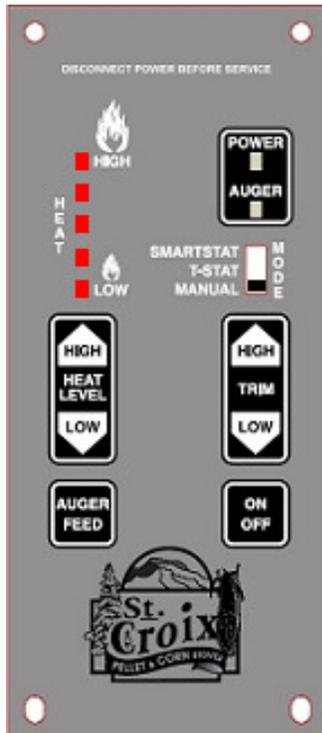

Figure 3
3 - **Program 3.** The Cycle Time is 11.5 seconds. **THIS PROGRAM IS THE DEFAULT PROGRAM FOR USE WITH THE AFTON BAY.** This program is for use with **Pellets, Cherry Pits and a 50/50 Percent Mixture of Pellets and Corn (See fig. 3 on page 8).** **(DO NOT USE THIS PROGRAM WITH OUR GRAIN BURNING MODELS).**
4 - **Program 4.** The Cycle Time is 10 seconds. **THIS PROGRAM IS ONLY FOR USE WITH THE CHERRY PITS. (See fig. 3 on page 8).** **(DO NOT USE THIS PROGRAM WITH OUR GRAIN BURNING MODELS).**
To change the Program the Stove must be in the OFF position, the unit must be completely cooled down so the Proof of Fire Switch is Open and the Thermostat slide switch must be in the Manual mode. (See figure 3)
2. Push the On/Off button on the control board. (See figure 3)